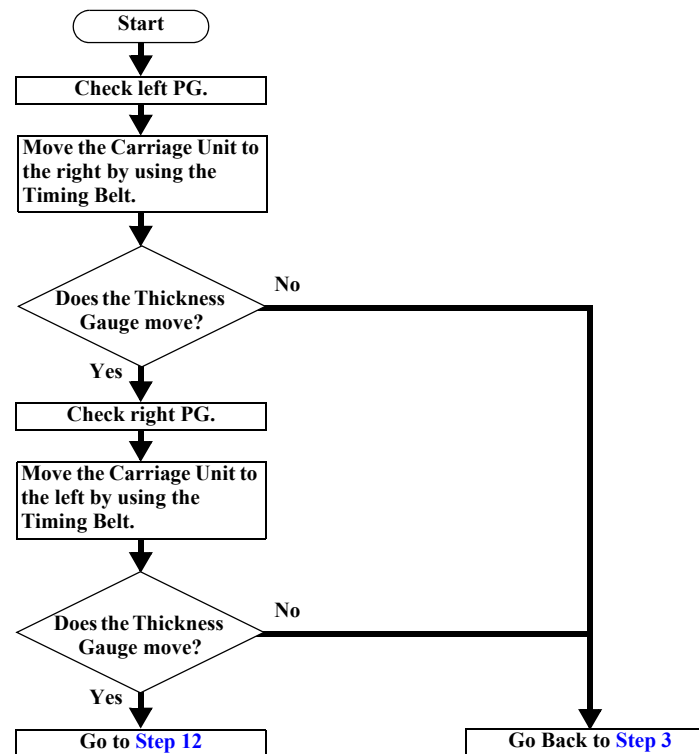

Figure 3-13. PG Checking (2)
- Check PGs on both the left and right according to the flowchart in the Figure 3-13.
- After screwing, check PGs on both the left and right again according to the flowchart in the Figure 3-13.